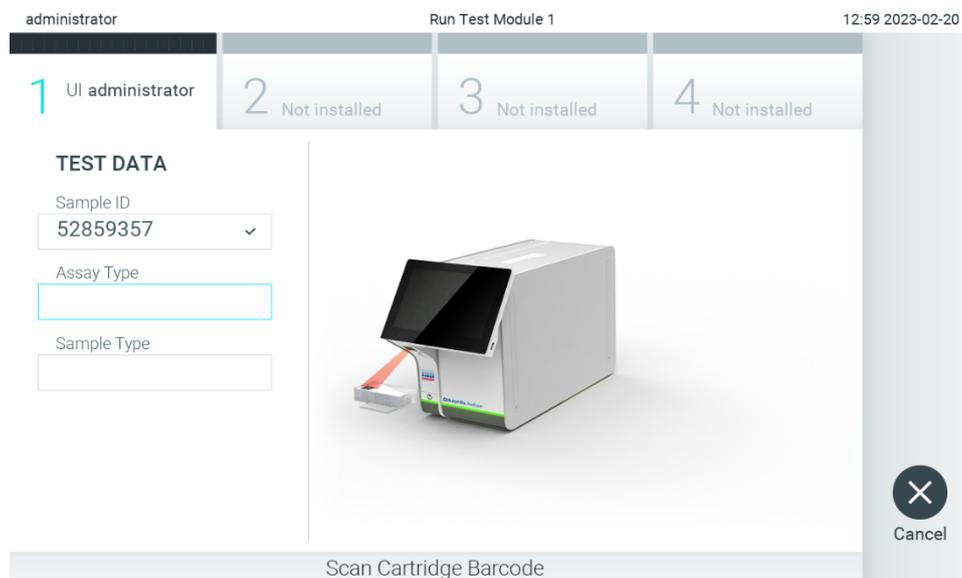

Figure 24. Scanning the QIAstat-Dx assay cartridge bar code.
3. When prompted, scan the bar code of the QIAstat-Dx assay cartridge to be used. The QIAstat-Dx Analyzer 2.0 automatically recognizes the assay to be run, based on the QIAstat-Dx assay cartridge bar code (Figure 24).
Note: Use the barcode on the side of the cartridge (as indicated in Figure 24) and not the barcode on the packaging of cartridges.